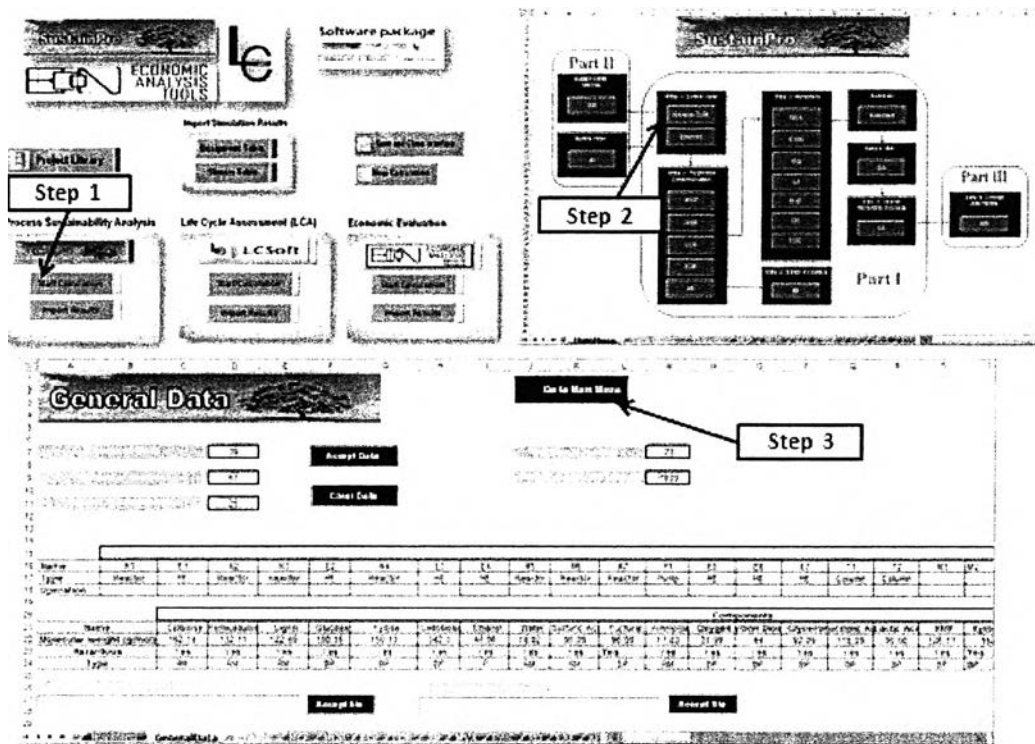

Figure B.14: Steps to perform sustainability analysis (Continued)
Step 1: Click “Start Calculation” button in “Start menu” page below “SustainPro” button. Interface will send sustainability data to SustainPro and “Main menu” page of SustainPro will appear (Figure B.14).